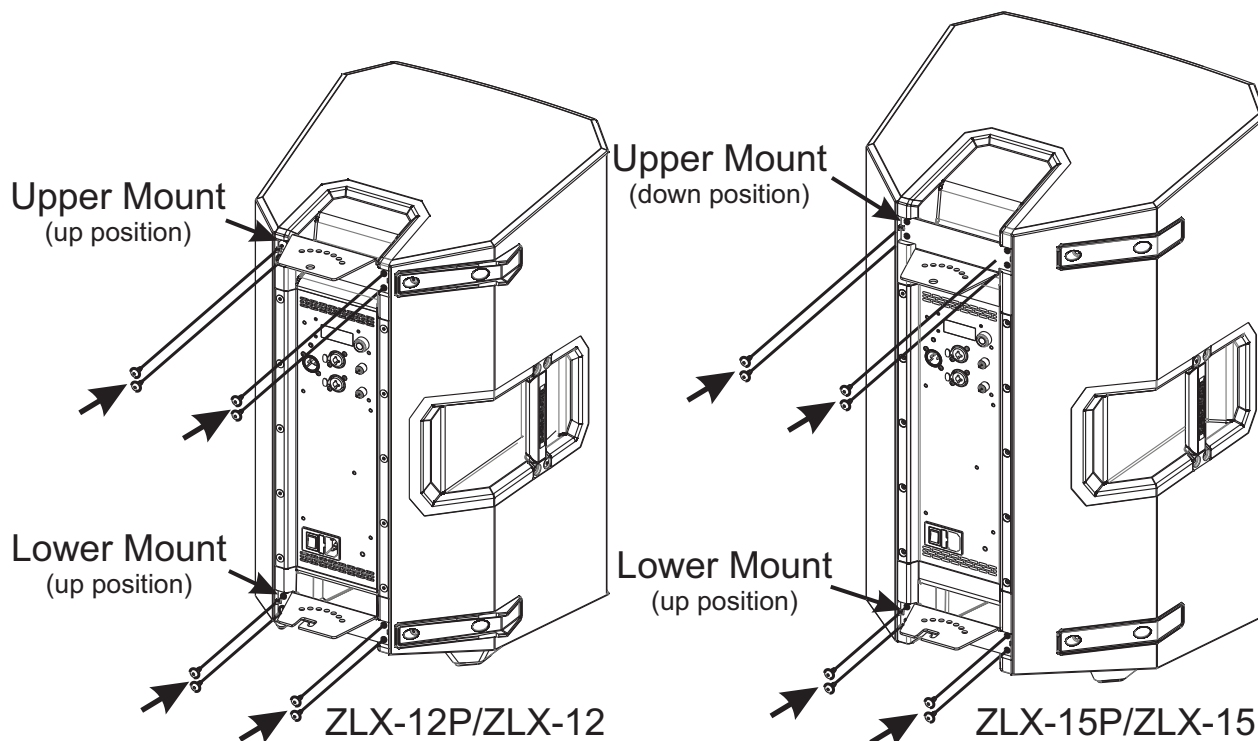

Figure 2.2: Attach Mounts
Using the four (4) screws you removed from the top handle, attach the **upper mount** to a 15 inch ZLX loudspeaker where the top handle was located in the down position (see Figure 2.2).